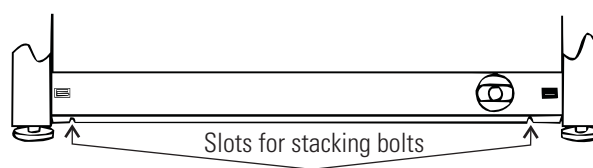

Figure 1-5. Stacking Bolt Slots
2. Note the two slots in the base of the incubator which accommodate the stacking bolts. Refer to Figure 1-5.